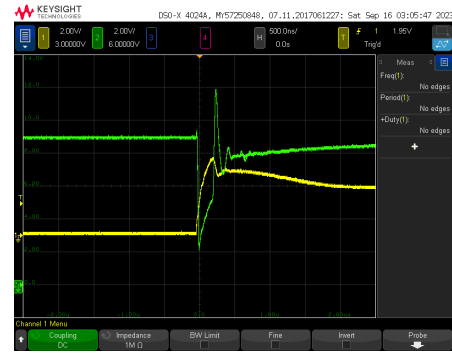

Figure 5: Fast rise time connect up to transistor - 20ns
- From figures 5 and 7 we can see when the transistor is switching a high current load, there is lots of noise generated. So much so that in the fast noise case the power rail voltage (green) drops to 0v. There is such a big demand for current, the voltage drops. In an ideal circuit, this would never happen, however, in the real world, we have inductance and capacitance. The inherent inductance of the wires and breadboard is what is causing this noise.
- We can use results from the experiments. I will use the fast no-capacitor case (fig 5) to find these values. This will show us the relatively large values of the circuit parameters.
- Voltage no load (fig 5) - $V_{th} = 9v$
- Voltage with load (fig 5) - $V_{th} = 8.2v$
- $Di = 365ma$ (fig 5)
- $Dt = 20ns$ (fig 5)